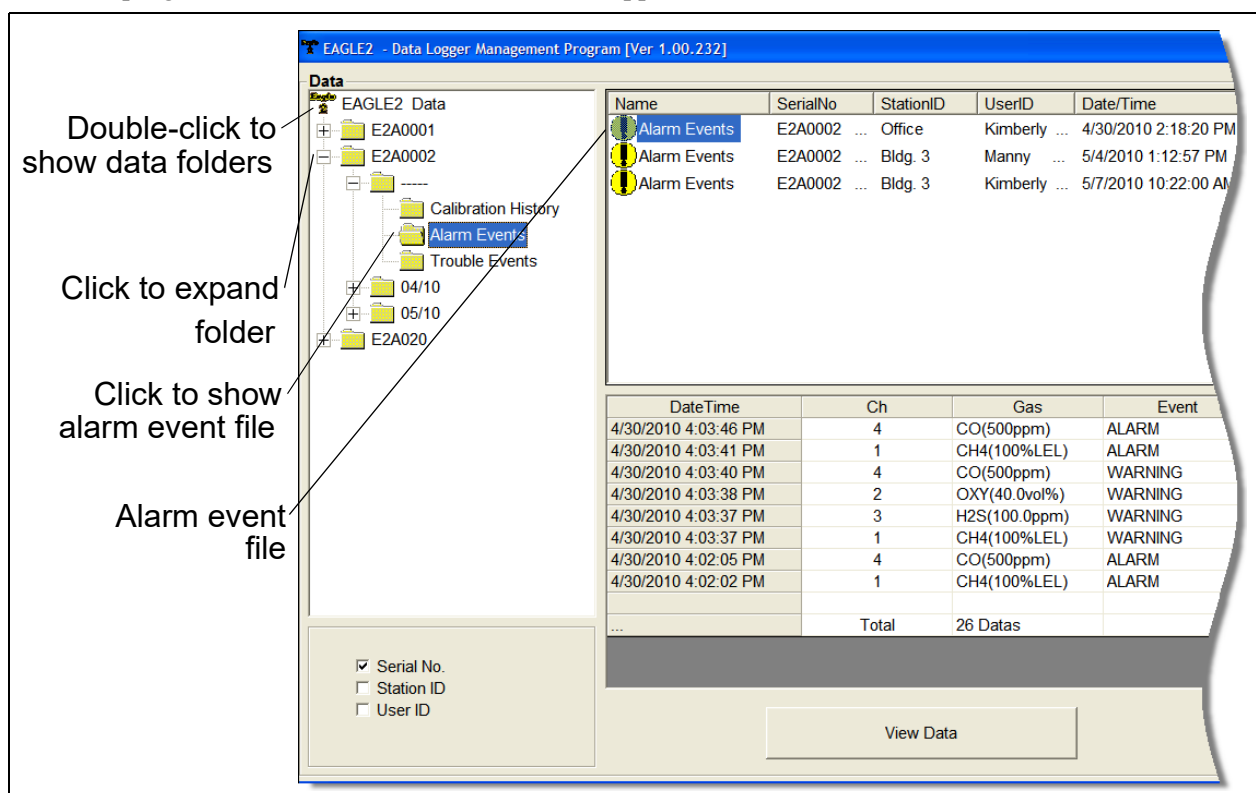

Figure 15: Data Window - Selecting Event Data Files
- Click the Alarm Events or Trouble Events folder. One or more alarm or trouble event files will appear in the top right frame. An Alarm Events Folder has been opened in the example in Figure 15. If multiple User IDs or Station IDs are used for an instrument, then more than one event file will appear.
- Click the desired event file to select it. An event list will appear in the bottom right frame with the date, time, channel, gas for an alarm file or general failure type for a trouble file, and specific event type for the first ten events saved in the selected file. If more than ten events are saved, the first eight events are shown and the total number of events in the file is shown at the bottom of the list (see Figure 15).
- If you click the **Summary** button, the Data Window will split into two frames one above the other with the event list in the lower frame and the summary information shown in the upper frame. The summary information is the same as the information shown in the upper right frame in Figure 15. The summary information is the instrument serial number, station ID, user ID, and the last download date. To return to the one frame format, click **Summary** again.